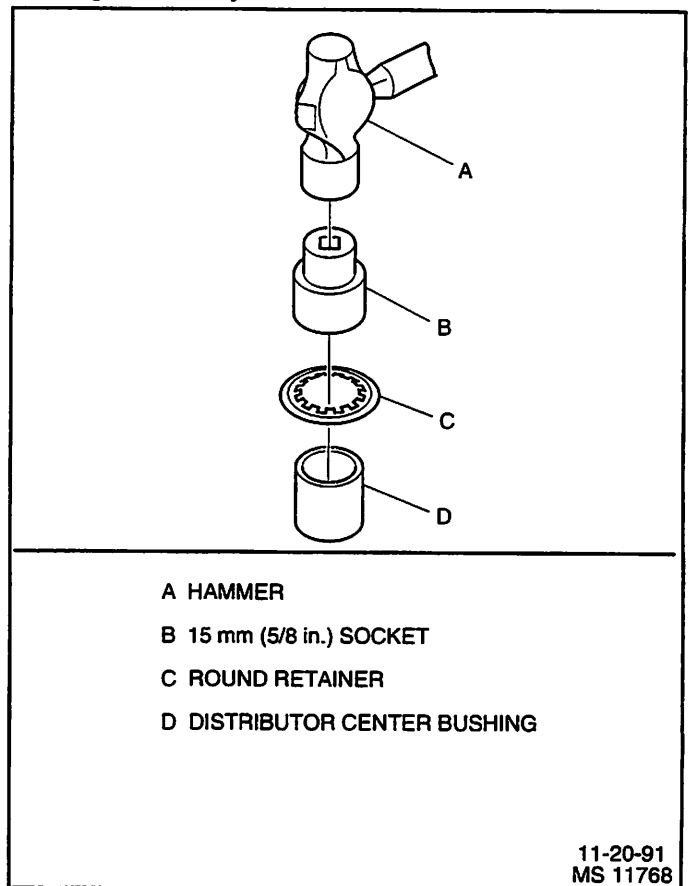

Figure 4-10 - Retainer to Shield Installation
1. Ignition control module (10) to the housing (11) with two screws.
2. Pick-up coil (7).
4. Shield (6) onto the pick-up coil.
5. Retainer (5) onto the housing (Figure 4-10).
6. Shaft assembly (4) onto the housing (11).
7. Tang washer (12), washer (13) and drive gear (14) onto the bottom of the shaft.
8. Roll pin (15) into the gear.
9. Rotor (3) onto the shaft (4).